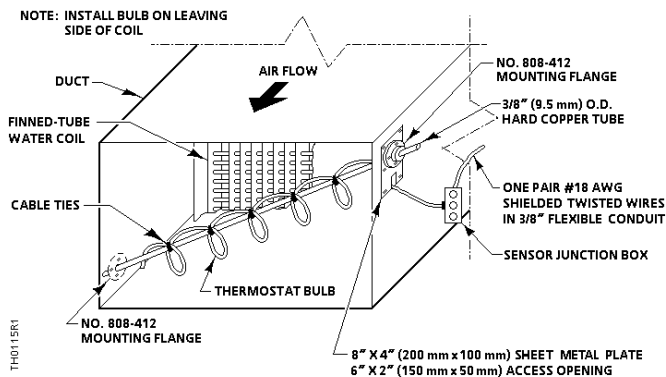

Figure 1. Duct Sensing Element Mounting Arrangement, Option A.
Figures 1, 2 and 3 show the sensing element arrangements. They provide the fastest response when the element is exposed to cold temperatures. Figure 1 shows the most practical mounting arrangement; it does not require inside access to the duct. The other sensing element arrangements require inside access to the duct.
Required for limited access duct mounting, Option A (Figure 1):
The duct sensing element is used to detect temperature stratification in the duct. For proper operation, be sure to mount the sensing element at an angle, as shown in Figure 1.
1. Position one P/N 808-412 mounting flange on the opposite side of the duct (near the bottom) from where the 8 × 4-inch (200 mm × 100 mm) mounting plate is to be mounted. See Figure 1. Mark the four screw holes and the 1/2-inch (13 mm) center hole of the mounting flange.
5. Cut a vertical access hole 6 inches high × 2 inches wide (150 × 50 mm) (near the top of the duct) on the side opposite of the previously mounted mounting flange. See Figure 1. Mark and drill mounting screw holes for the sheet metal plate.